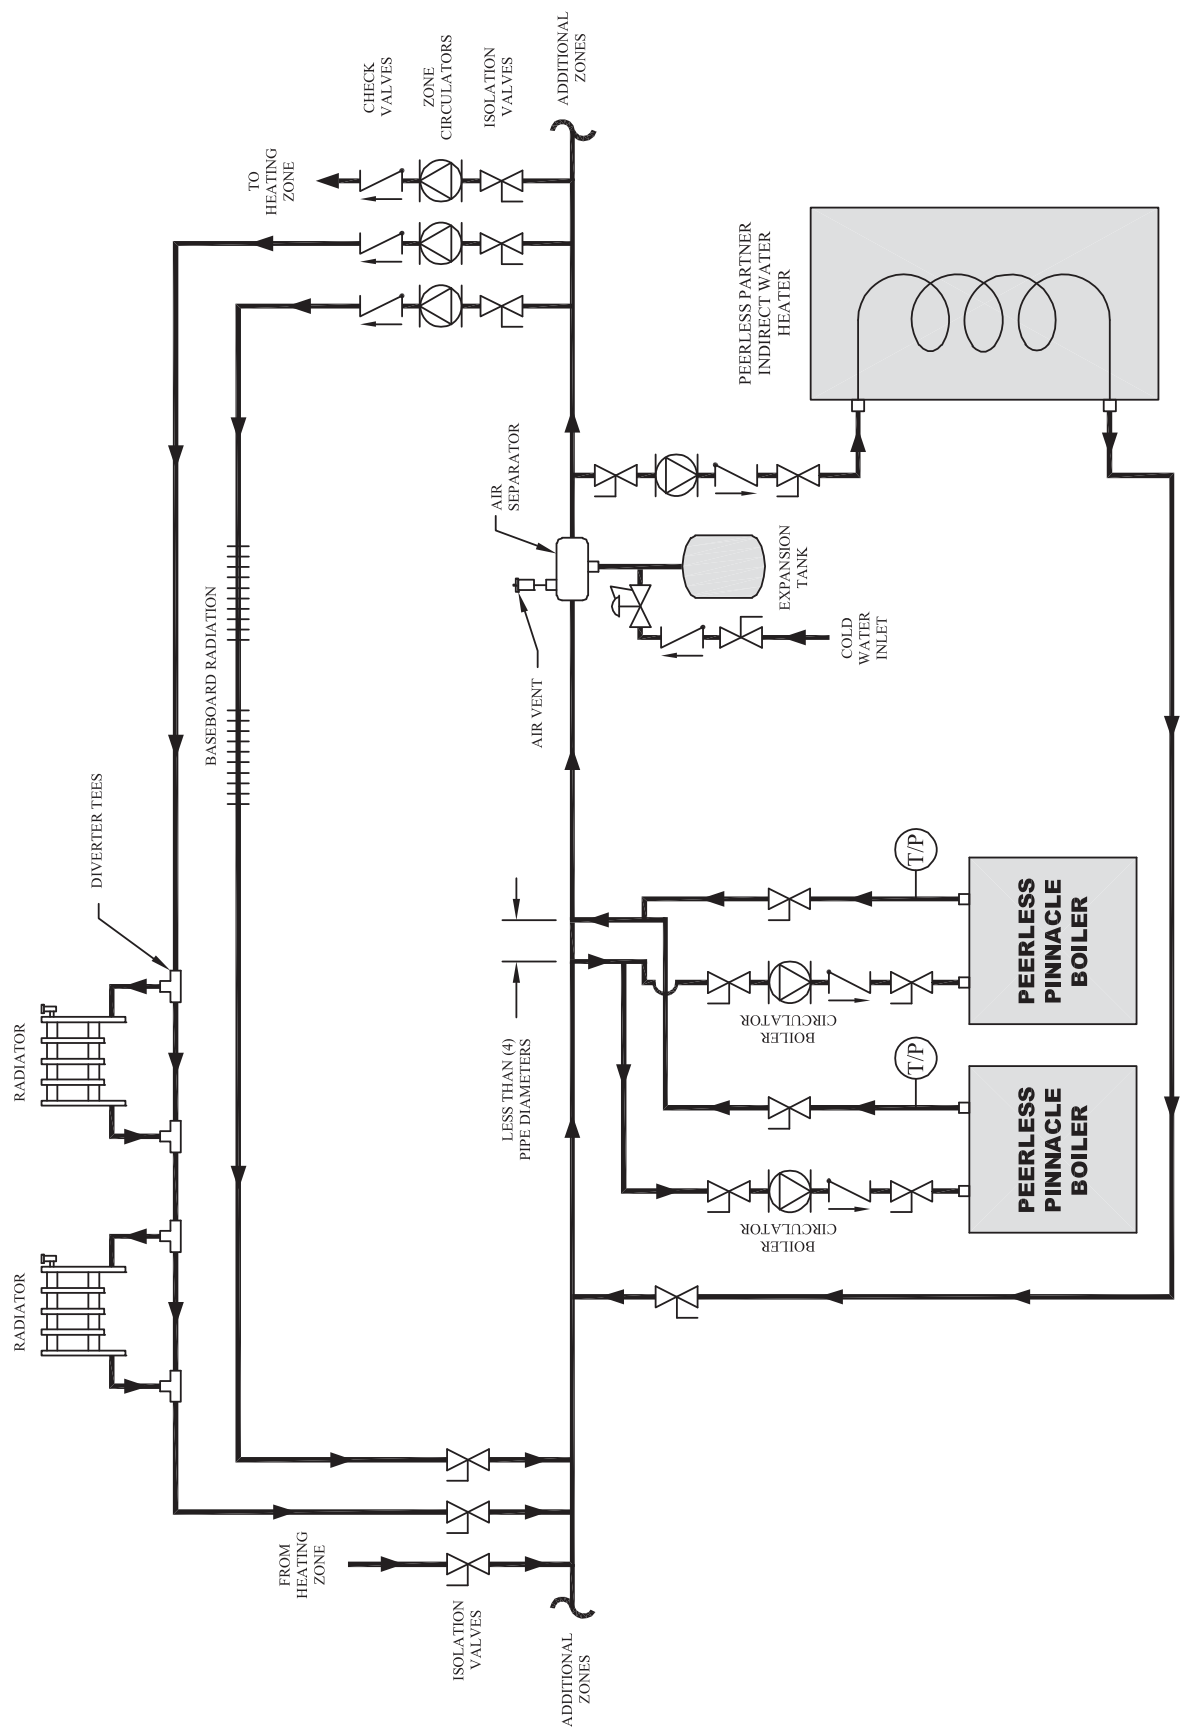

Figure 3.5: Two Boilers, Primary/Secondary with Four Zones (Zone Circulator)
3. Figure 3.5 shows diverter tees used in combination with conventional hydronic radiators on an additional zone. A second boiler is also added to the system. Notice that the boilers are piped in parallel on the secondary loop. It is important that the common headers are sized to match the system piping. Smaller headers may result in flow fluctuations through the boilers.